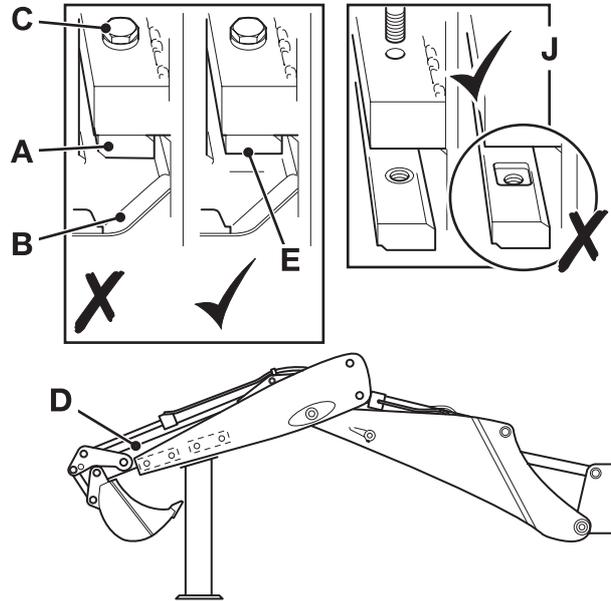

Fig 71.
- 1 Park the machine on level ground. Engage the park brake and put the transmission in neutral. Position the boom and dipper. ⇒ Fig 71. \(□ 3-78\). Retract the Extradig dipper **D**. Make sure that the bucket is clear of the ground and the dipper is supported.